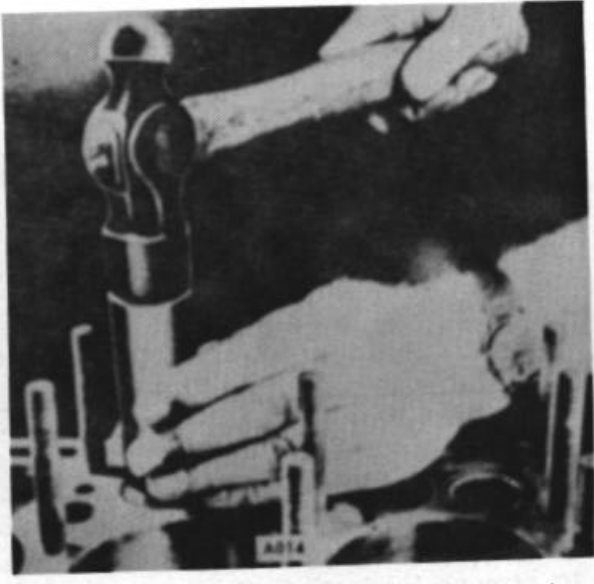

Figure 13.
2. When oversize inserts are used, dimensions of the insert and counterbore increase proportionately (.010", .020", .030", depending on the oversize). New insert installation should have a press fit. Chill insert with dry ice for 20 minutes before assembling. Insert may then be installed in the counterbore using a piloted driver, tapping in place with very light hammer blows, without shearing the side walls. (Fig. 13) This assures a firm seating in the bottom of the counterbore, after which it should be rolled in place.